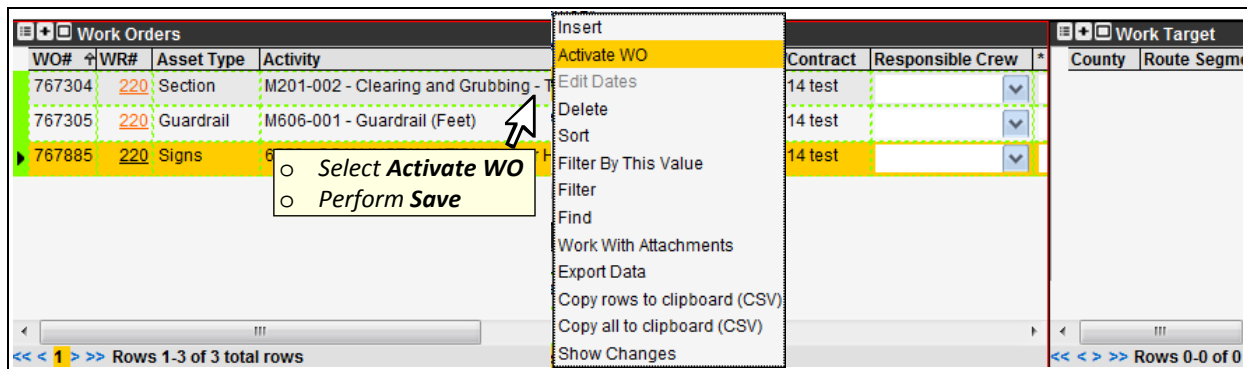

Figure 5-7. Issue ~ Work Request – Work Orders Pane (Activate WO)
8. When completed with edits, perform an **Activate WO** function, to activate the Work Order (Figure 5-7).